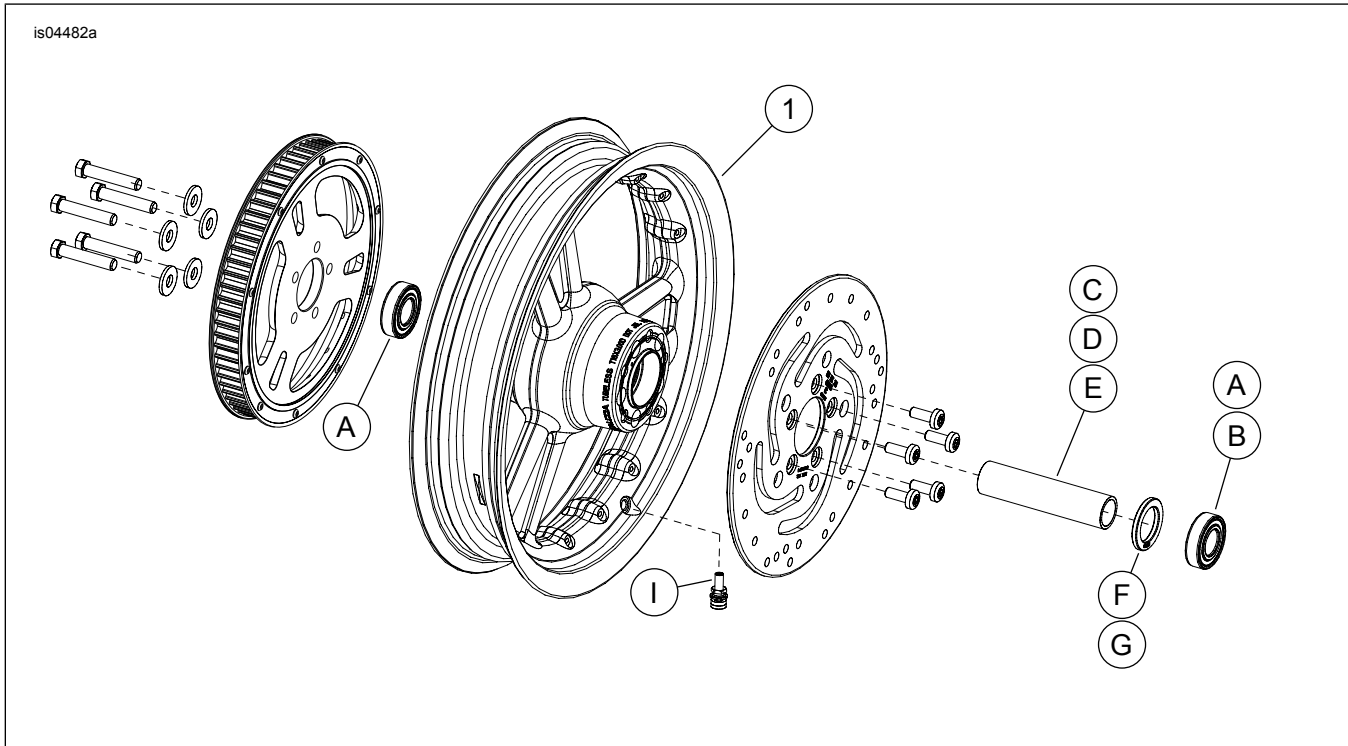

Figure 1. Service Parts: Rear Detonator Wheels (16 Inch Shown)
See Figure 1 and Table 2
- See Figure 1. Install valve stem assembly (I) on wheel. Refer to TIRES in service manual.